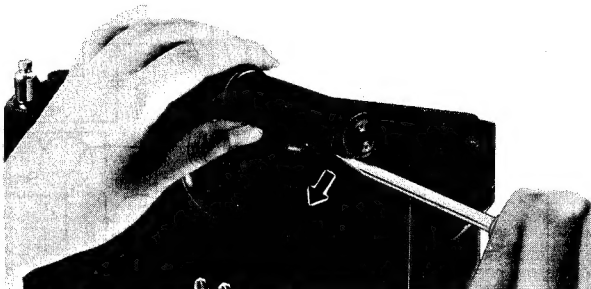

Fig. 6
- Remove gyro antenna cover in the direction of arrow, as shown in fig. 6.